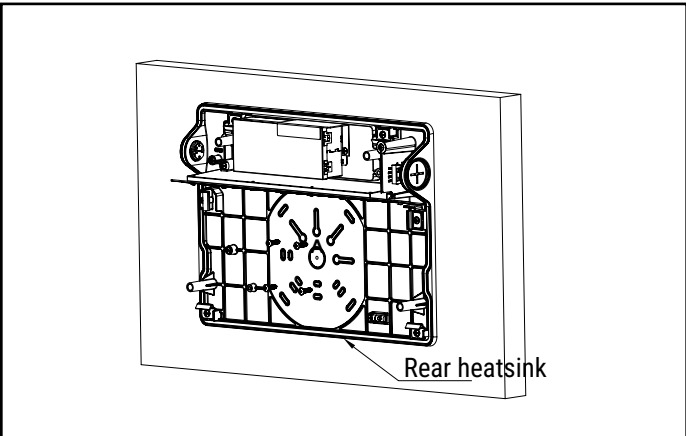

Figure 4
- 2. Feed the supply wires through the central wire hole in the rear heatsink. Secure the rear heatsink to the mounting surface with suitable mounting hardware (provided by others) while ensuring the gasket has full contact with the mounting surface. (Figures 4 & 5)